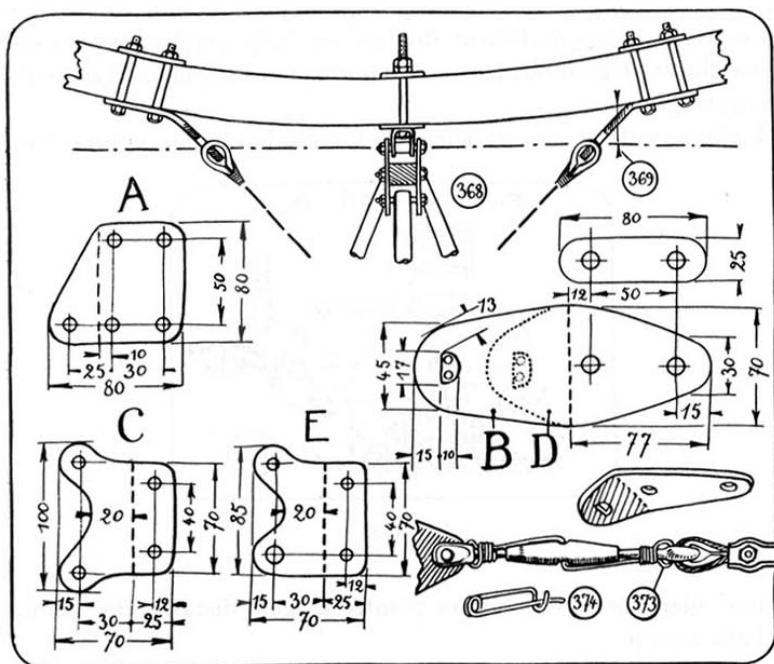

Figure 6.4: Layout of front-wing bracing
wing. The fittings **B** fixed by the two bolts (365) have been cut and bent so that their eyes, by which the stay cables are attached, are aligned with the axis of the pivot attachment (195), as shown in exaggerated form at (368). With a tautened wire, it is easy to determine the height (369) (fig. 6.4).